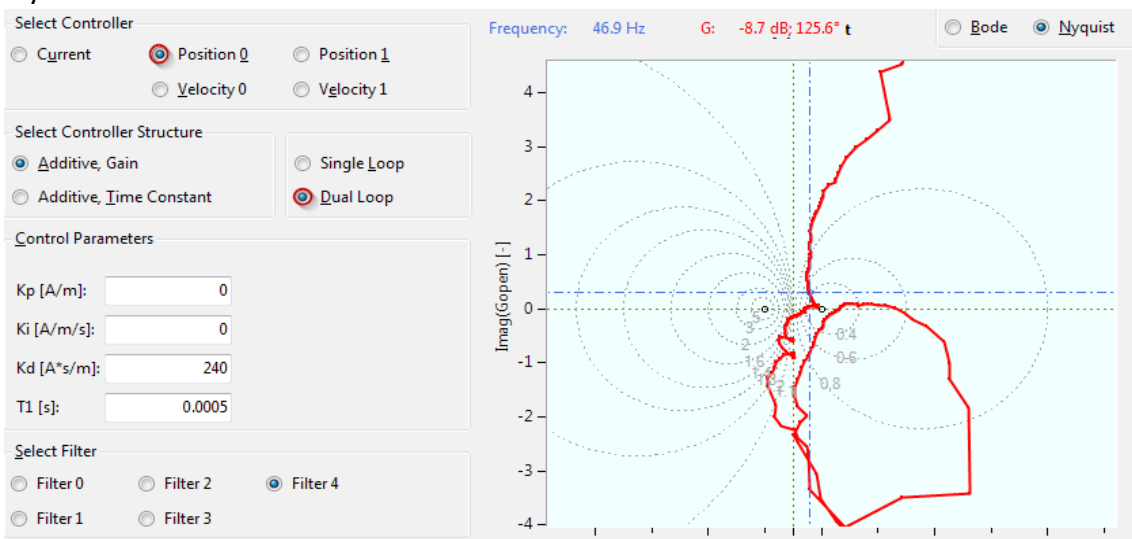

Figure 11: Nyquist plot of the inner controller with closed outer controller loop.
- Activate **Position 0** in the **Select Controller** panel and **Dual Loop** in the **Select Controller Structure** panel and activate the **Bode** plot view (Figure 11).